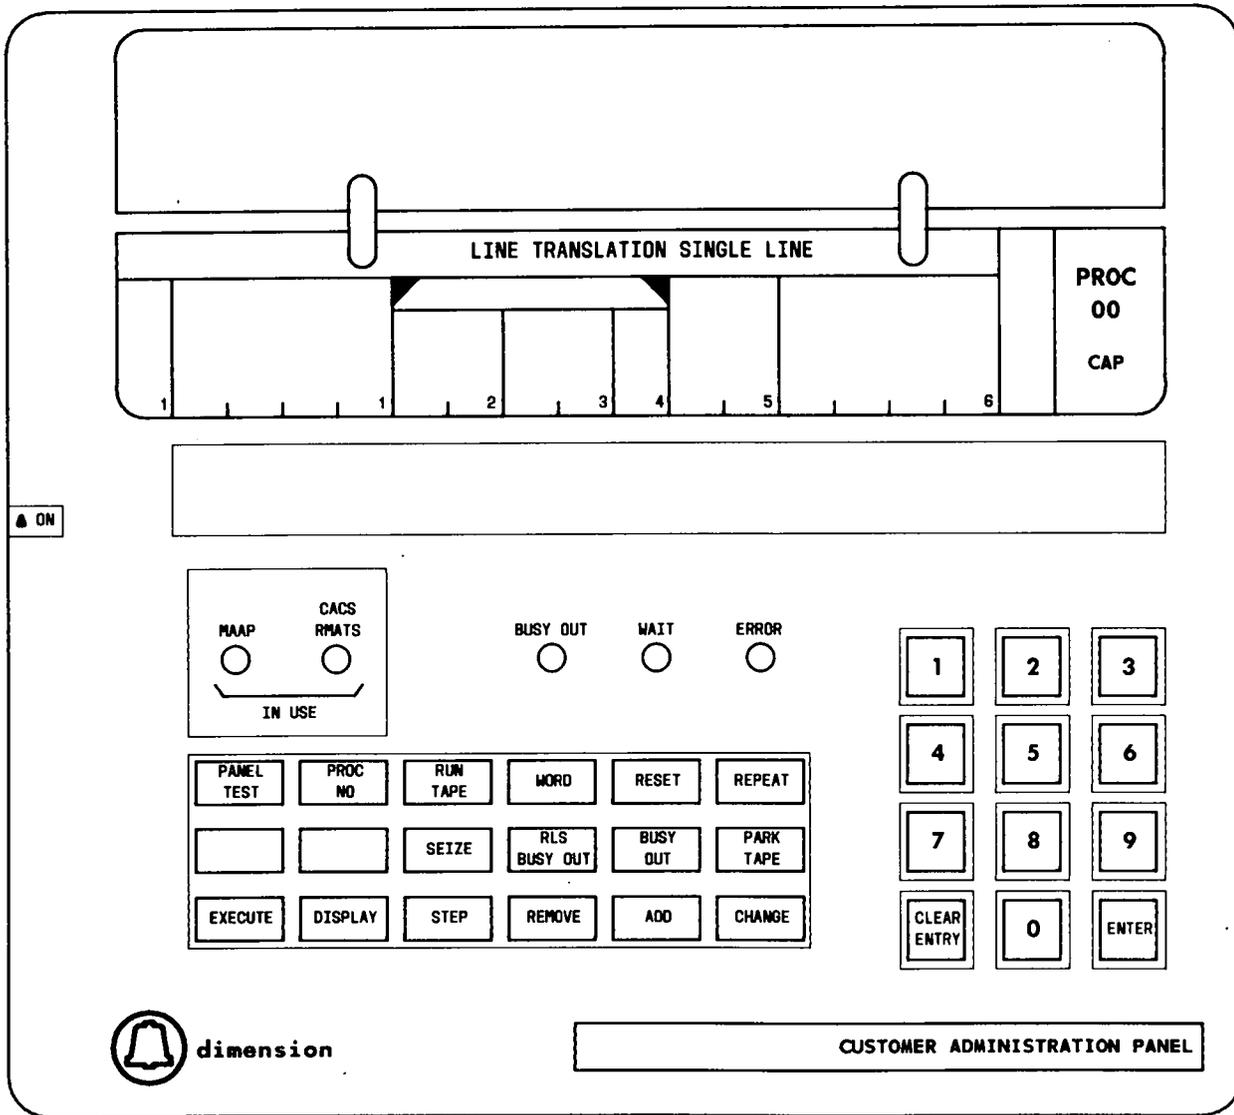

Fig. 4—Customer Administration Panel
**3.54** This feature provides the customer the ability to change station user features and control other PBX features. The CAP (Fig. 4) is used on a local basis (ie, located with the PBX on customer premises).